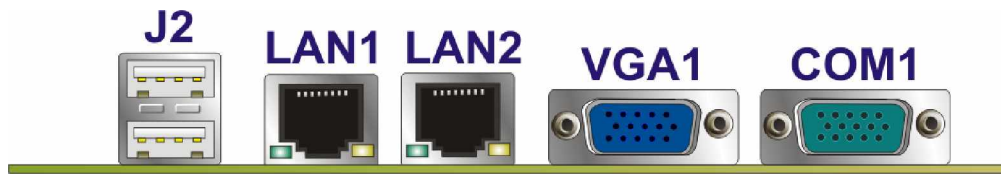

Figure 4-17: 3302140 On-board External Interface Connectors
The 3302140 external peripheral interface connectors are listed below and shown in Figure 4-17:
CN Location: See Figure 4-17
CN Location: See **Figure 4-17**
- CN Location:** See Figure 4-17